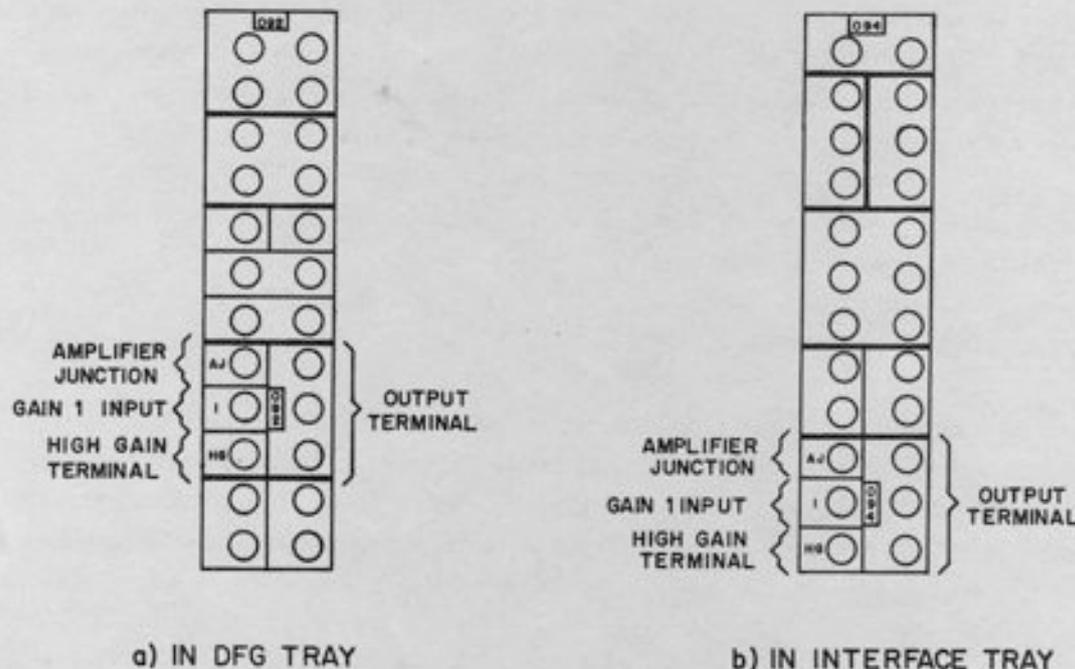

Figure 9.2. Junction Inverter Patching Areas
9.1.2 Applications (Figure 9.2)